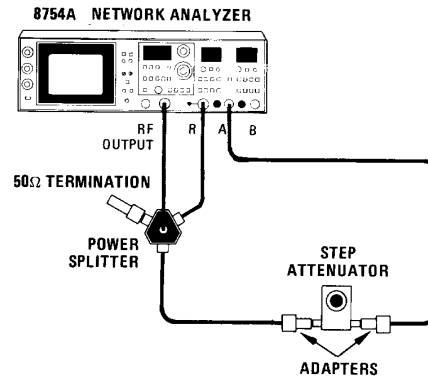

Figure 4-17. Magnitude Dynamic Accuracy Test Setup
1. Connect equipment as shown in Figure 4-17 with step attenuator set at 20 dB.